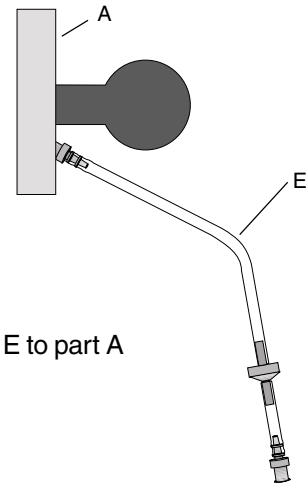

Figure 2
1. Connect the hose connector on part E to the hose connector on part A (Figure 2).